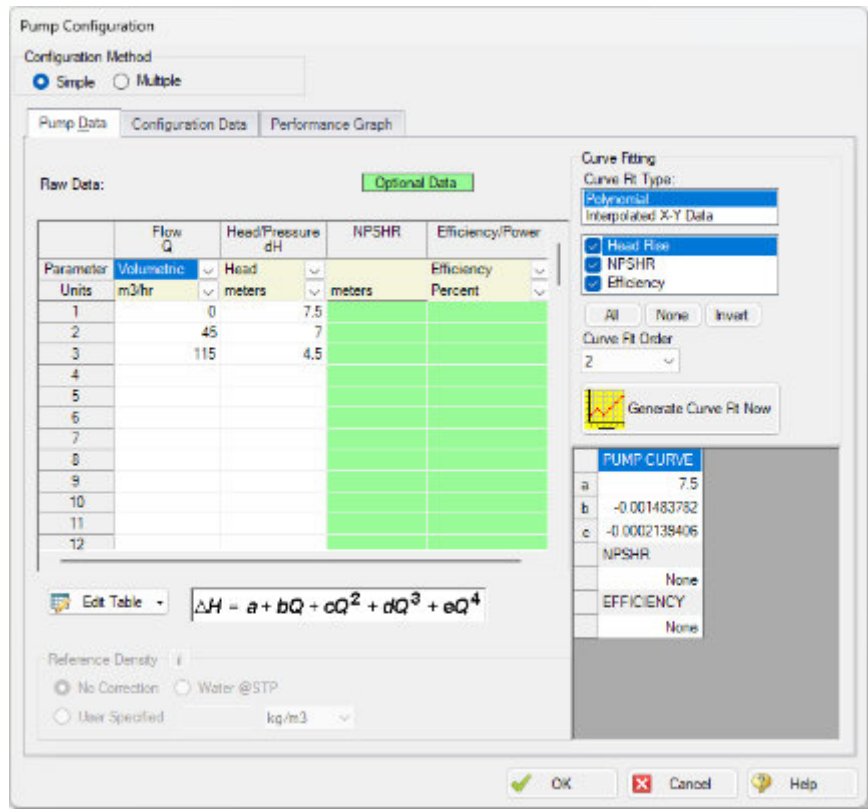

Figure 4.6 Pump Configuration window for the Freon Delivery System Example
4. Enter the pump curve data (see Figure 4.6):